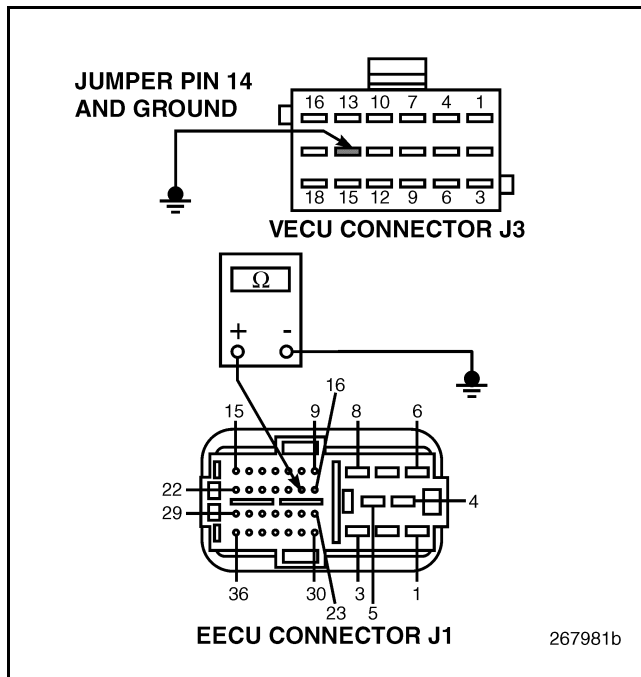

Figure 638
5. Check for continuity between Engine Electronic Control Unit (EECU) connector J1 pin 17 and a good ground (see Figure 638).